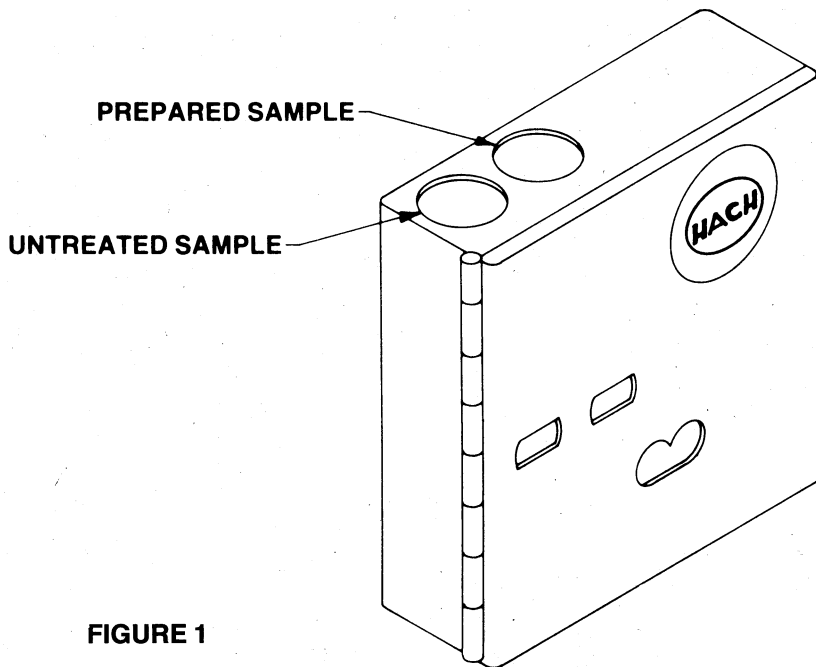

FIGURE 1
5. Insert the color-developed sample into the right-hand opening on the top of the color comparator as shown in Figure 1.
6. Insert the tube without reagents into the left-hand opening of the color comparator as shown in Figure 1.
8. Read the concentration of ammonia nitrogen, in mg/L (N), through the scale window. **See Note B.**